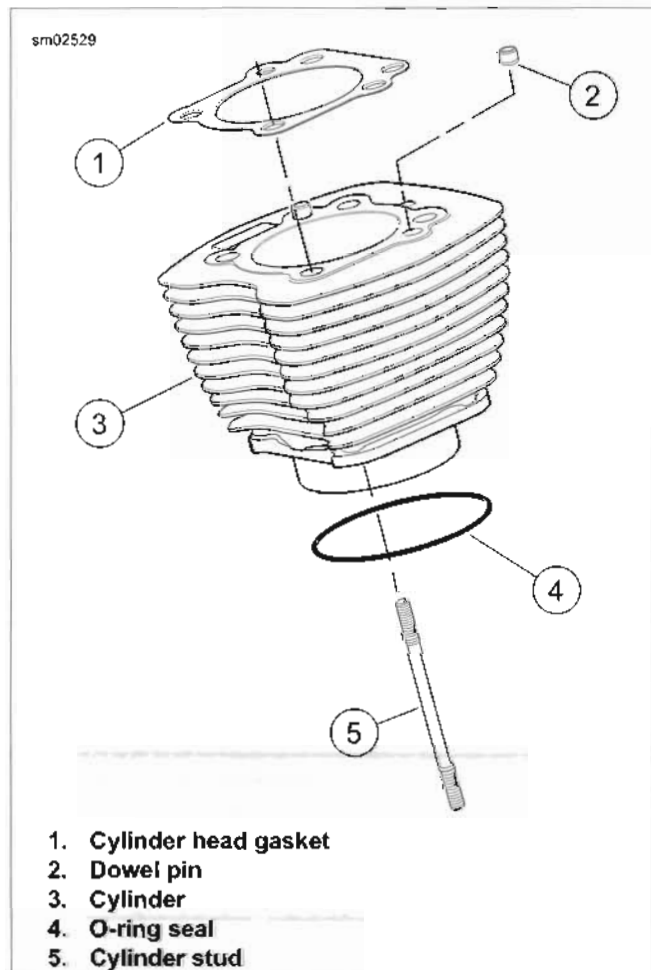

Figure 3-56. Cylinder Assembly
1. See Figure 3-56. Scrape any remaining cylinder head gasket material from the gasket surface at the top of the cylinder (3).